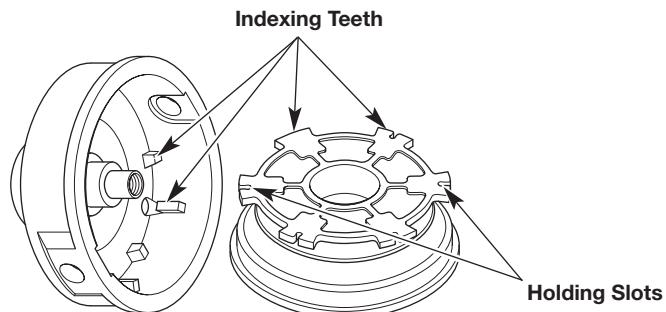

Fig. 17
- Check the indexing teeth and holding slots for wear (Fig. 17). If necessary, remove burrs or replace the inner reel and outer spool.